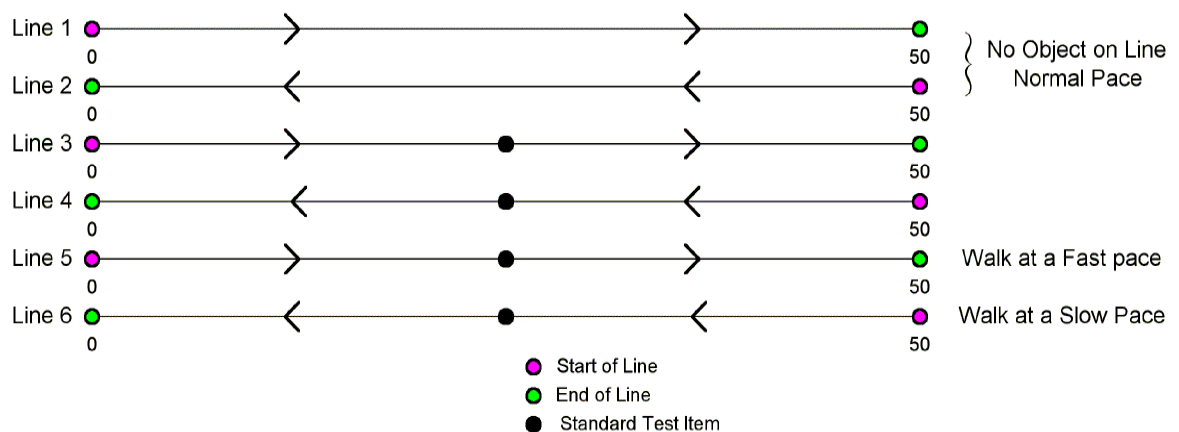

**Figure E.1 Example Test Site**
- a. Six-Line Test: This test can be used for all geophysical instruments, and is illustrated in Figure E.1.
- (1) Use an area that has little background noise and no sources of anomalous responses.
- (2) The test lines should be well marked to facilitate data collection over the exact same lines each time the test is performed. Background response over the test area is established in Lines 1 and 2.
- (3) A standard test item, such as a steel trailer hitch ball (or any metallic object) will be used for Lines 3 through 6. Heading effects, repeatability of response amplitude, positional accuracy, and latency are evaluated in Lines 3-6.